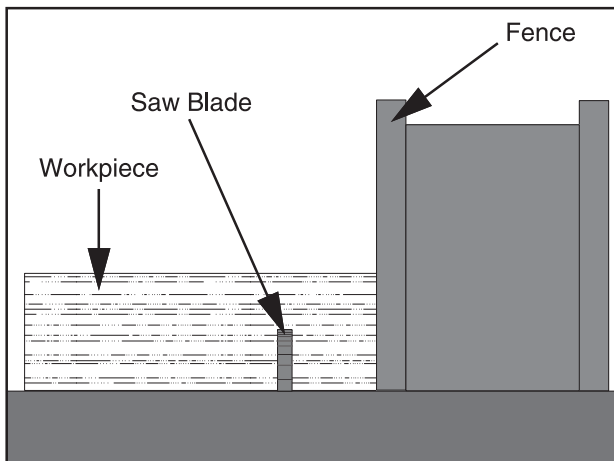

Figure 51. Rabbet cutting with a standard blade.
4. Adjust the fence so the blade is aligned with the inside of your rabbet channel as shown in **Figure 51**.